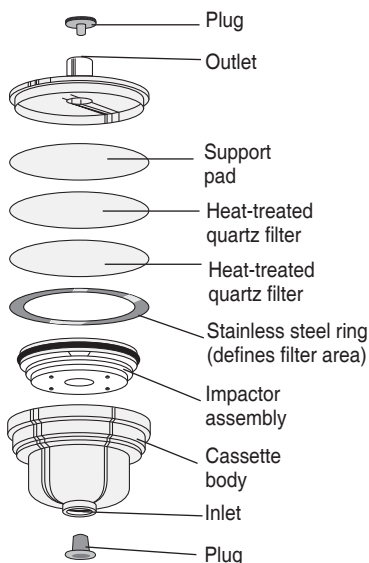

Figure 1. Exploded view of
1. Remove the plug from the outlet of the cassette (Figure 1).